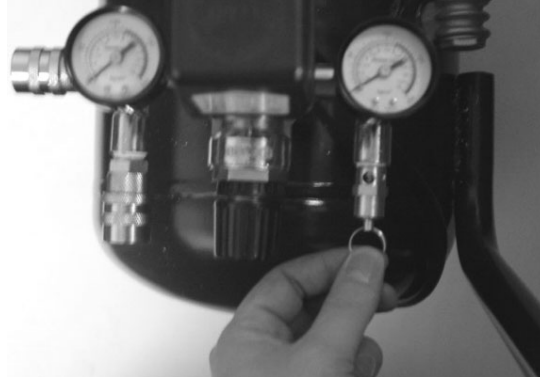

FIG. 5
2. Drain air from the air tank by releasing air with an attached air tool or by pulling on the safety relieve vale ring. (see FIG. 5)